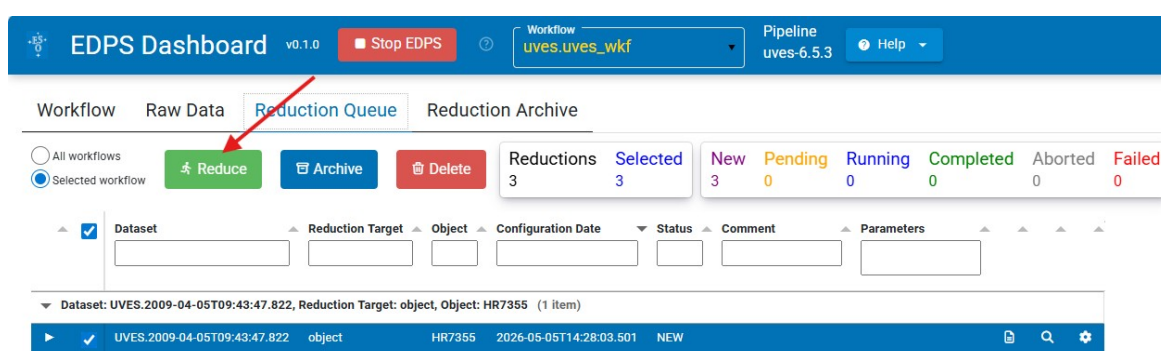

Figure 10: Reduce.
4. Press the ‘Reduce’ button (Figure 10). The selected data will now be processed with the configured parameters.